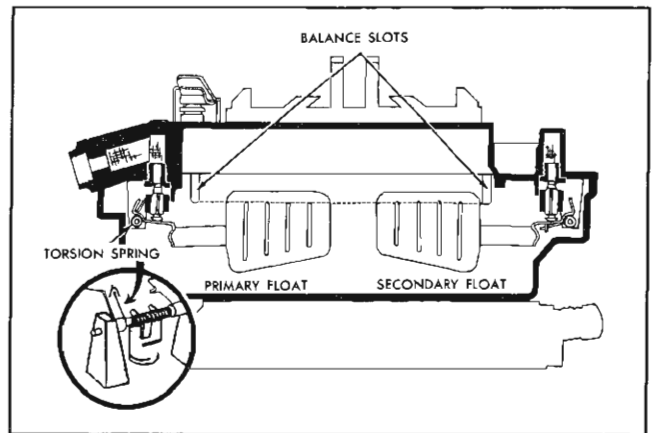

Fig. 6B-33 Float System
**IDLE SYSTEM (FOUR CYLINDER) (Fig. 6B-34)**